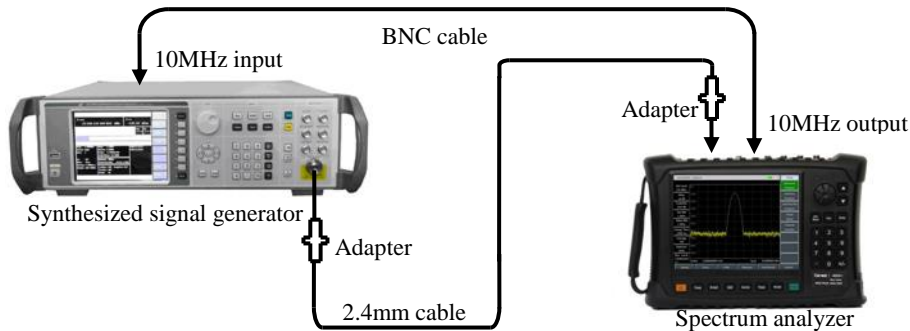

Fig. 12-13 Setting for Image, Multiple and Out-of-band Response Test
1) Connect the test instruments as shown in Fig. 12-13. The spectrum analyzer will provide the frequency reference for the synthesized signal source.